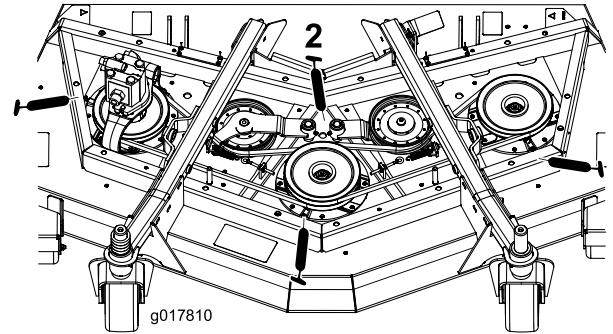

Figure 42
- 3 spindle-shaft bearings—located under the pulley (Figure 42)